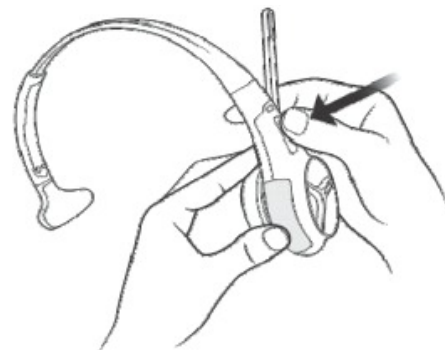

Figure 9.
3. Gently press the two halves together until they securely snap into place at the top. You may need to apply a slight downward pressure to align the connections appropriately. When the Control pod is connected to Carrier, you will hear a slight click. See *Figure 9*.